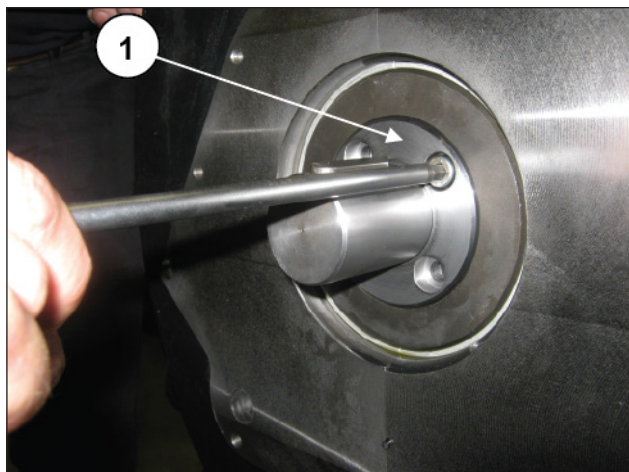

Fig. 24
Undo the four M8 screws (pos. ①, Fig. 24) and remove the lube pump drive shaft from the crankshaft.